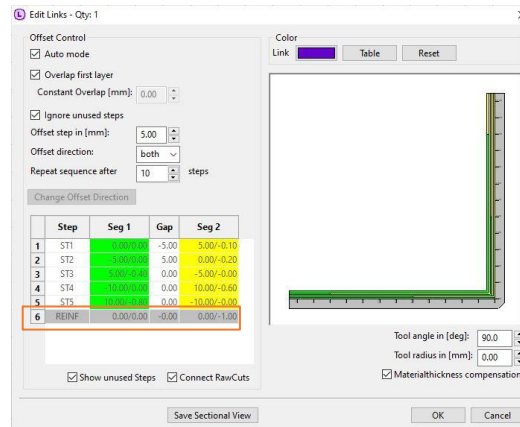

Figure 184
23. If we reopen the Edit Link Dialog again by double-clicking on the link, we will see that our “REINF” step is now grayed out and is no longer considered for the affected top mastercuts (Figure 184).